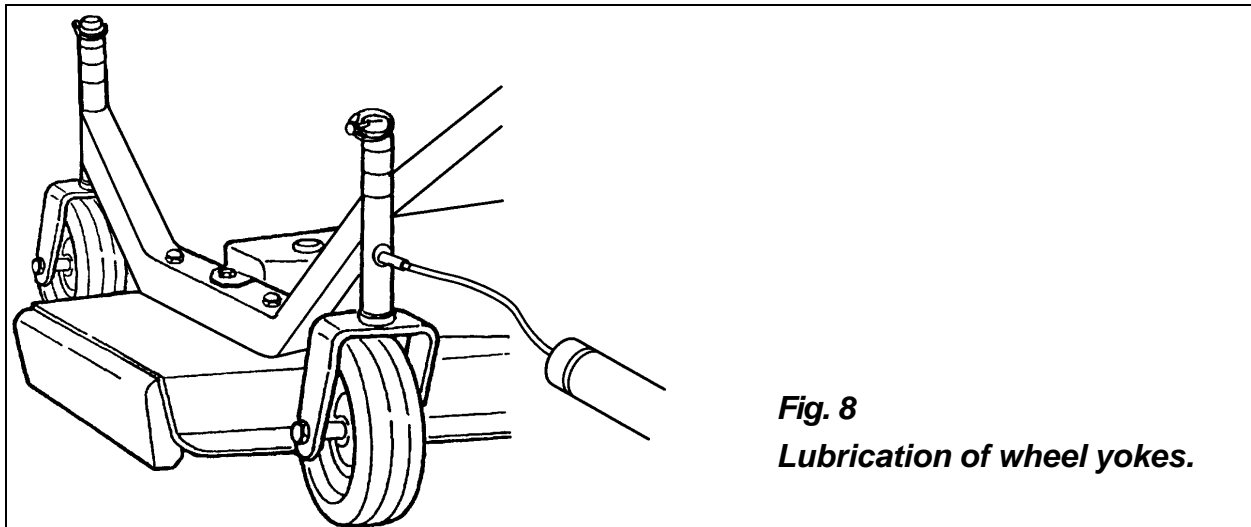

Fig. 8
1. **lubricate the driveline and the wheel yokes:** apply two or three shots of grease to the driveline cross and bearings and the telescoping shafts; apply the same amount to the wheel arm grease fittings (**see fig. 8**). See the driveline manufacturer operator's manual for further information on the driveline.